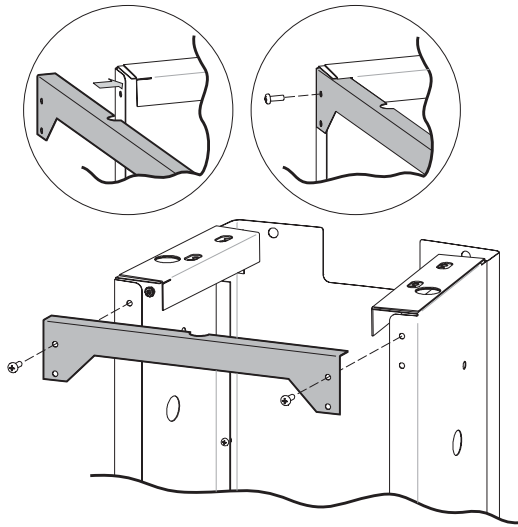

Figure 5
- Attach Rear Brace to the Left and Right Side Assemblies with two 1/4-20 x 3/4" Phillips Truss Head screws and 1/4-20 Hex nuts. See Figure 5. Important: Make sure the brace goes in the cutout of the support bracket.